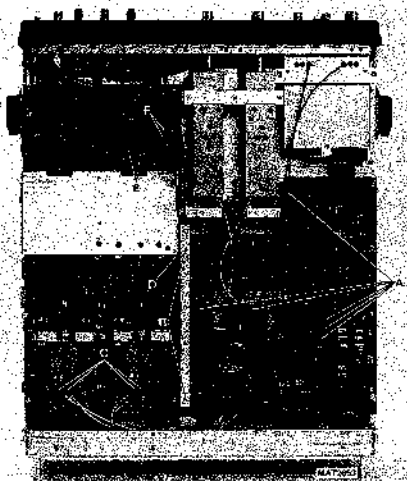

Figure 10.4 Bottom side of the oscilloscope.
The vertical signal unit can be turned up as follows (see figure 10.4):
The P²CCO unit can be turned up as follows (see figure 10.4):
- Unscrew the two screws marked with B in figure 10.4 and remove the profile.